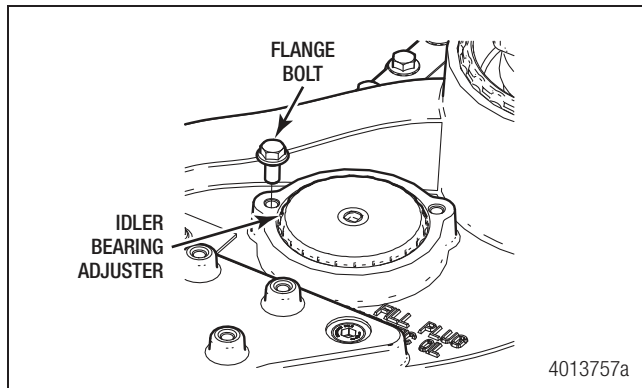

Figure 7.57
- Apply Loctite 242 threadlocker to the flange bolt threads. Install the flange bolt to secure the adjuster in place and tighten to specification. Figure 7.57.